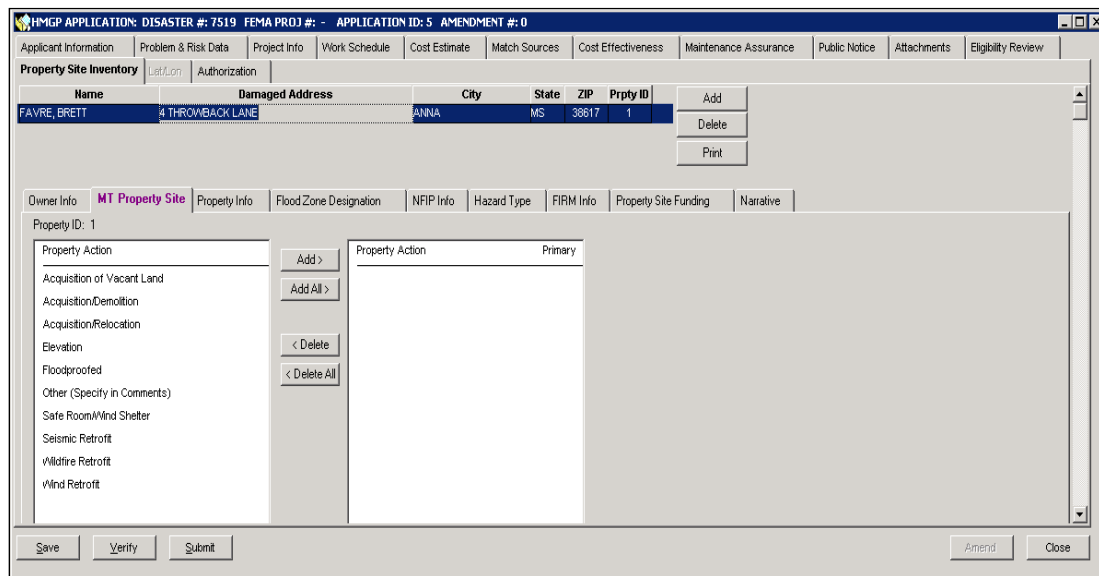

Figure 6-88: Mitigation > Projects > Application Development > Property Site Inventory > MT Property Site Sub-tab
10. Click the **MT Property Site** sub-tab (Figure 6-88). To add MT Property Site information, complete Steps 10a - 10c.